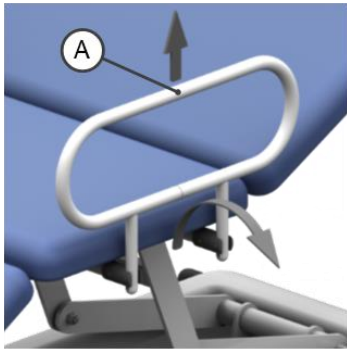

Fig 1.
To Lower: Grip and hold the Arm in the middle of the top rail (A) and pull up as indicated by the directional arrow (fig 1.) to unlock.